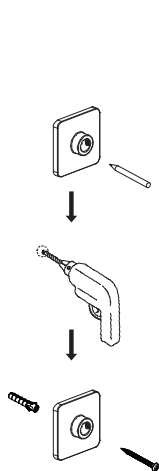

Figure 8
- b) Install the wall holder ⑩ on the marked position (Figure 8). Cover the thermostatic shower bar to prevent the dust. Connect the pipe connector ⑤ to the wall holder and use the Allen key to secure (Figure 9).